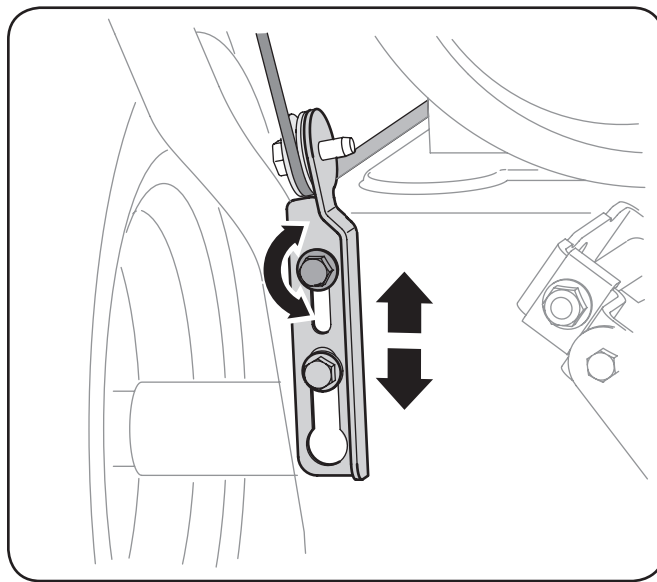

Figure 3-11
4. Allow the auger to remain engaged for approximately ten (10) seconds before releasing the auger control. Repeat this several times.
7. To readjust the control cable, loosen the upper hex nut on the auger cable bracket. See Fig. 3-11.